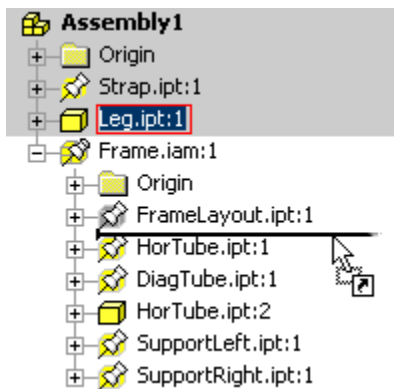

Figure 22: Drag-and-drop assembly restructure.
1. Drag Leg.ipt:1 in the browser, and drop it below FrameLayout.ipt:1, as shown in Figure 22.